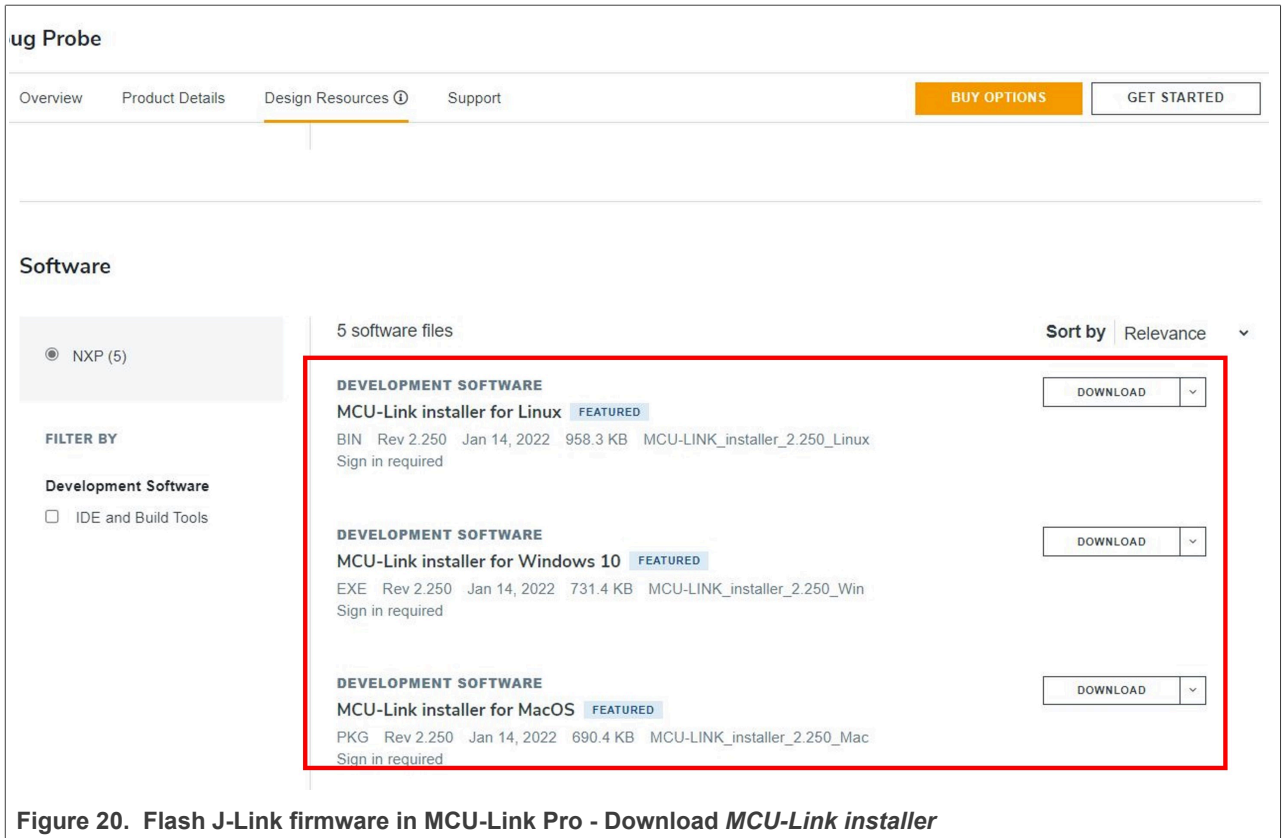

Figure 20. Flash J-Link firmware in MCU-Link Pro - Download *MCU-Link installer*
1. First, you must flash the J-Link firmware in the MCU-Link Pro. To do this, go to the MCU-Link Pro website and download the *MCU-Link installer* software for your operating system as shown in Figure 20.